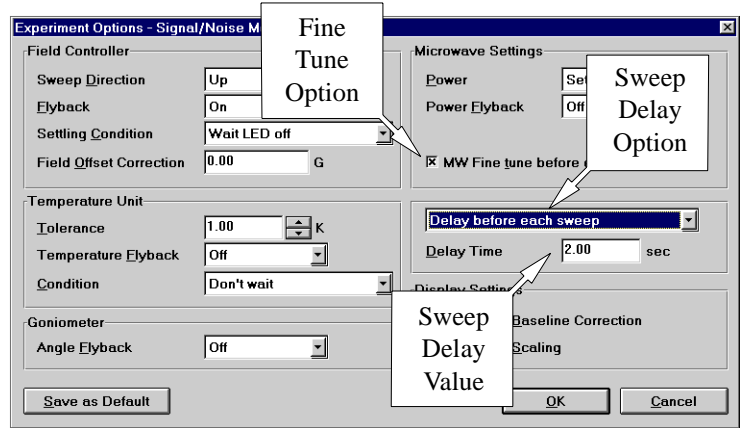

Figure 9-6 Set Experimental Options.
4. **Set a time delay.** Since a very long time constant is used, set a delay time of 2-5 seconds to avoid overshoots or undershoots in the first few data points when you acquire the spectrum. Open the Experimental Options dialog box (found in the Parameter drop-down menu) and set the Delay before each sweep option and a delay of two to five seconds. (See Figure 9-6.) We also advise you to select MW Fine Tune before each sweep option to ensure the acquisition is made under proper coupling conditions.